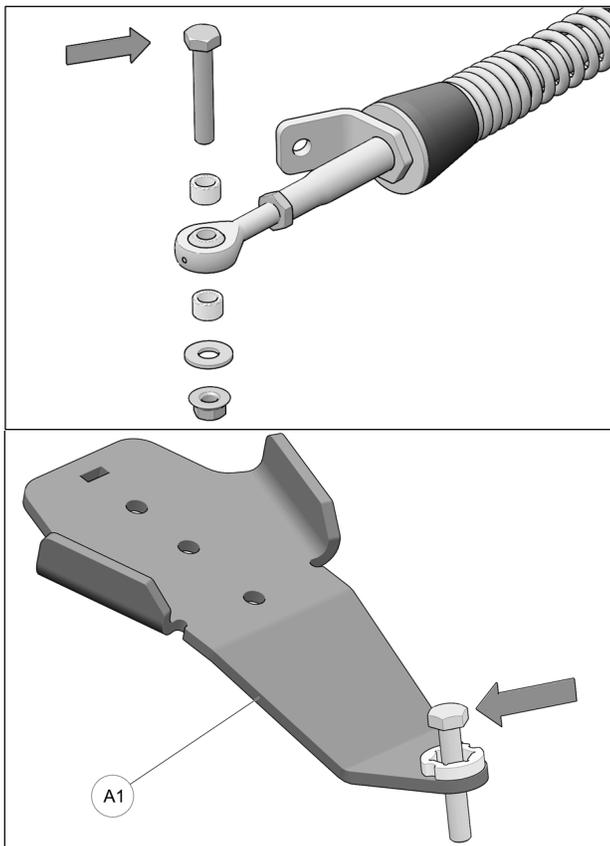

Fig. 14
4. Remove bolt, washer and bushings from front stabilizing rod end and insert bolt in front anchor bracket (**A1**) as shown in Fig. 14